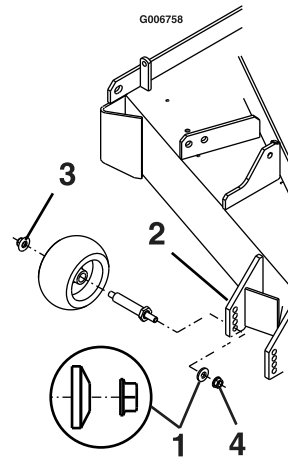

Figure 9
7. Torque the 3/8–16 whizlock nut to 30-35 ft-lb (41-47 N-m) (Figure 9).
8. If the 3/8 nyloc nut has been removed, reinstall and torque to 30–35 ft-lb (41-47 N-m) (Figure 9).